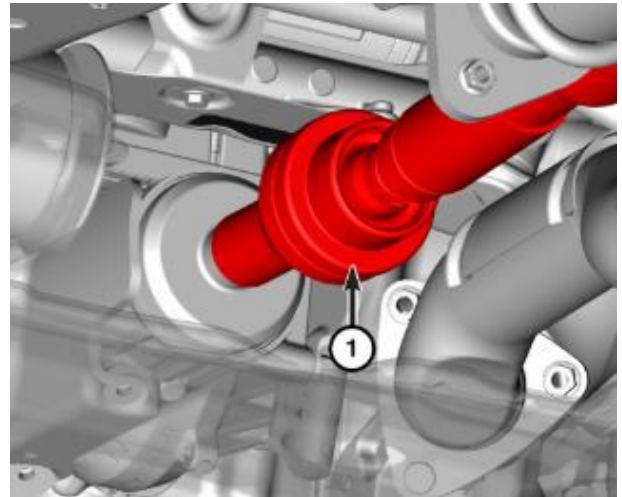

Figure 30 – Rear Driveshaft
7. Using a brass drift, disconnect the rear driveshaft (1) from the PTU. Rest the rear driveshaft on the front subframe (Figure 30).
13. Connect the rear driveshaft to the PTU. Be sure the driveshaft is fully engaged to the PTU (Figure 30).